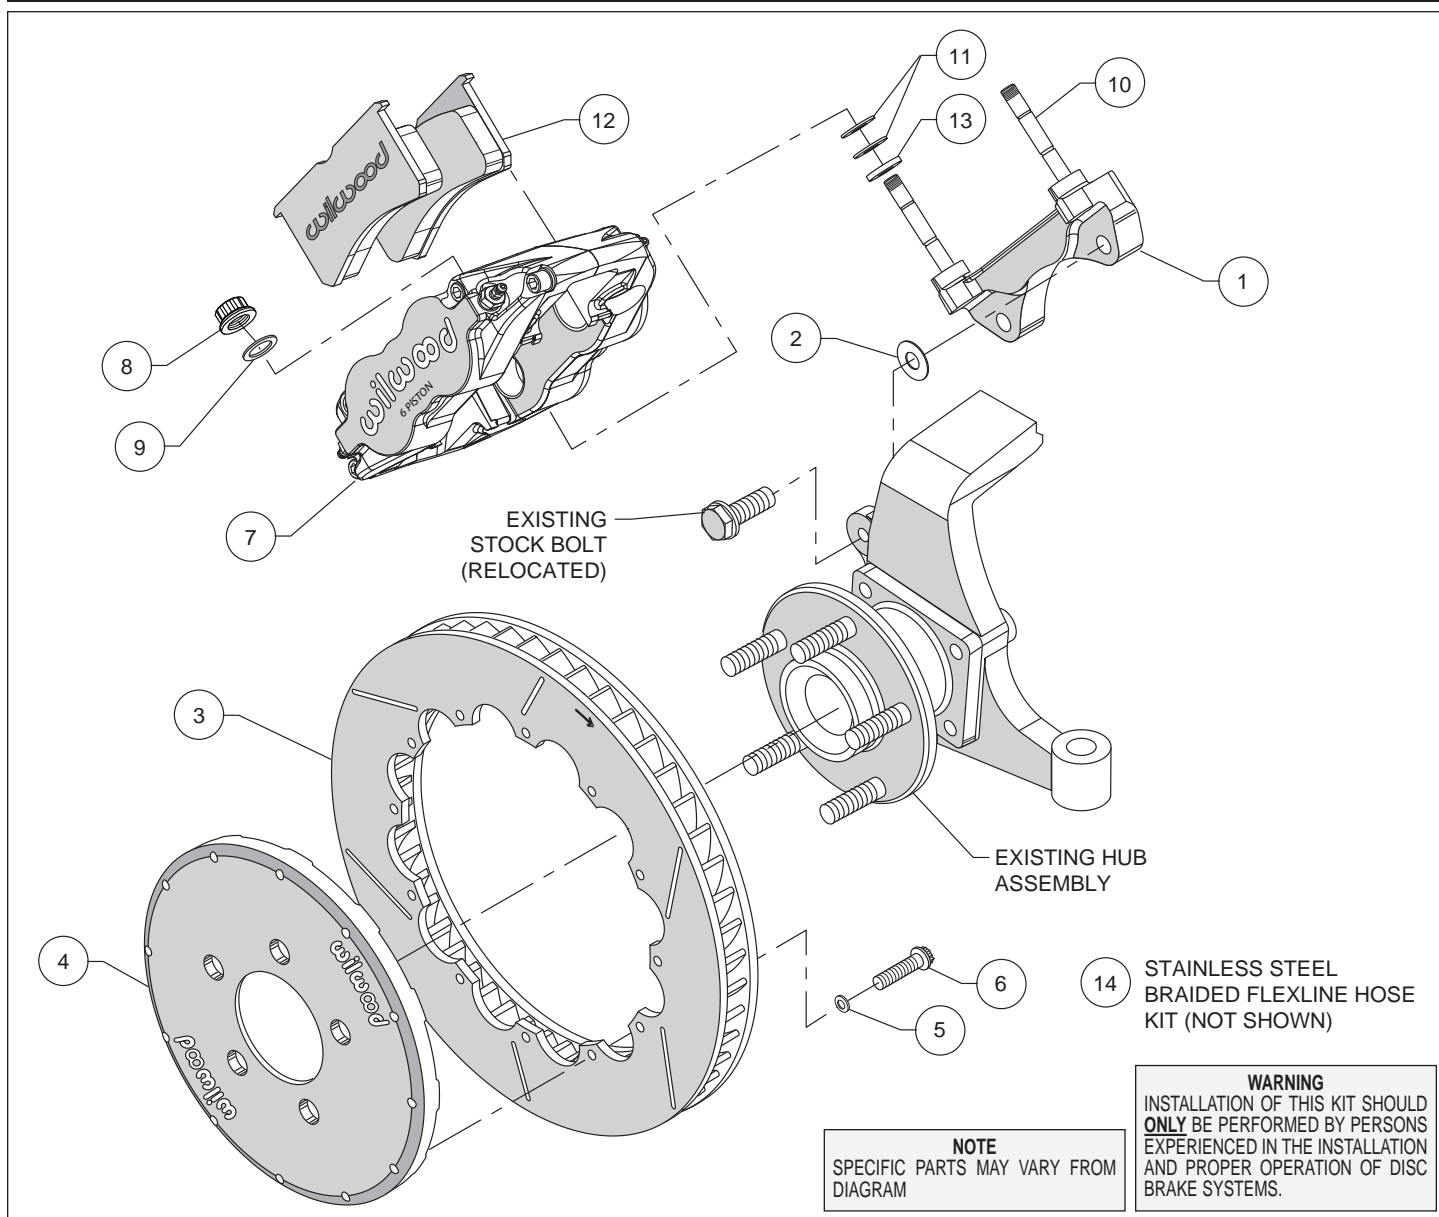
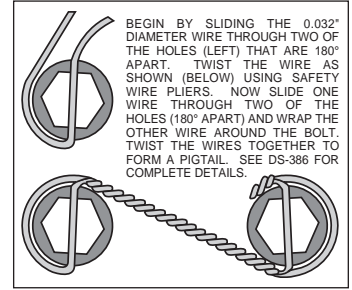

Figure 1. Typical Installation Configuration
Figure 3. Safety Wire Diagram
Assembly Instructions (numbers in parenthesis refer to the parts list and Figure 1 on the preceding pages):
- The caliper mount bracket (1) should initially be installed with clean, dry threads on the mounting bolts. Orient the bracket as shown in Figure 1, and install using OEM bolts. Initially place one .033 thick shim (2) on each bolt between the bracket and upright, Figure 1. Temporarily tighten the mounting bolts.
- Orient the rotor (3) and the hat (4) as shown in Figure 1 and Photo 1. Attach rotor to hat using bolts (6) and washers (5). Using an alternating sequence, apply red *Loctite*® 271 to the threads, and torque to 155 in-lbs. The bolts must be safety wired using standard 0.032 inch diameter stainless steel safety wire as shown in Figure 3. Please refer to Wilwood's data sheet DS-386 (available at www.wilwood.com/Pdf/DataSheets/ds386.pdf) for complete safety wire installation instructions.
- NOTE:** This kit contains distinct right and left hand calipers that must be mounted in a specific direction, as described below. Lubricate the caliper mounting studs (10) with lightweight oil. Initially place one .062" thick spacer (13) and two .035" thick shims (11) on each stud as shown in Figure 1 and Photo 2. Mount the caliper (7) onto the bracket (1) using lock nuts (8) and washers (9), Figure 1. Ensure that the caliper is mounted so that the largest pistons are at the rotor exit end of the caliper, in relation to the direction of rotor rotation. Temporarily tighten the lock nuts and view the rotor through the top opening of the caliper. The rotor should be centered in the caliper, Photo 3. If not, adjust by adding or subtracting shims (2) between the bracket and the upright. Always use the same amount of shims on each of the two mounting bolts. Once the caliper alignment is correct, remove the bracket mounting bolts one at a time, apply red *Loctite*® 271 to the threads, and torque to 60 ft-lb.